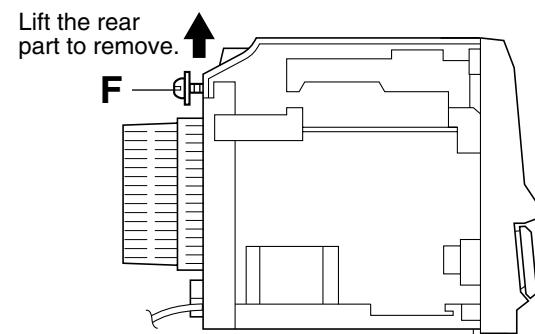

Fig.9
2. Lift the rear part of the top cabinet to remove it. (See Fig.9.)